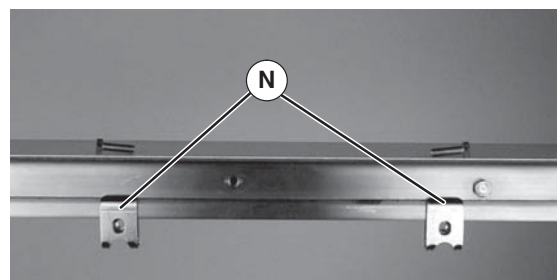

Figure 7
1. Install mounting clips (Figure 7, item N) on conveyor.